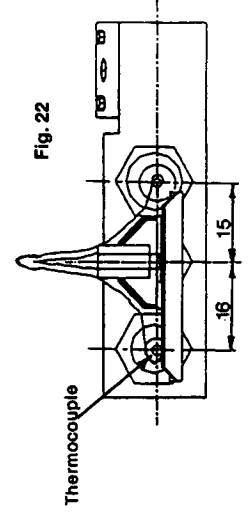
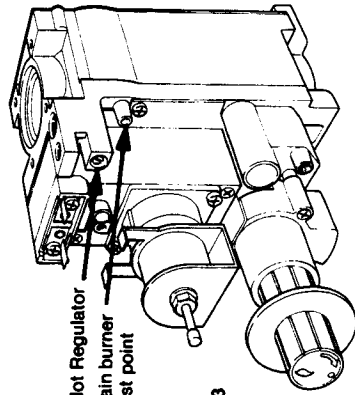

Fig. 22
Fig. 23
The pilot flame should remain alight, and envelope the thermocouple (see fig. 22). If it goes out, wait 3 minutes and repeat from 6.5.4
**6.5.7** Refer to fig. 22 and check that the pilot flame is correct. If it is necessary to adjust the flame refer to cl. 5.7.2 for access instructions. Fig. 23 shows the location of the adjustment screw. Turning clockwise decreases flame and vice versa.
**6.7.4** Locate the main burner pressure test point (Fig. 23) and slacken the screw half a turn in an anti clockwise direction. Attach a suitable pressure gauge. Turn on the main electricity supply, turn on a domestic hot water tap to operate boiler in dhw mode. Adjust the hot water thermostat to maximum setting.
**6.10.1** With the burner on high flame, turn the gas knob in a clockwise direction and confirm that a definite 'click' is heard. Relight pilot (6.5.4). Fig. 23